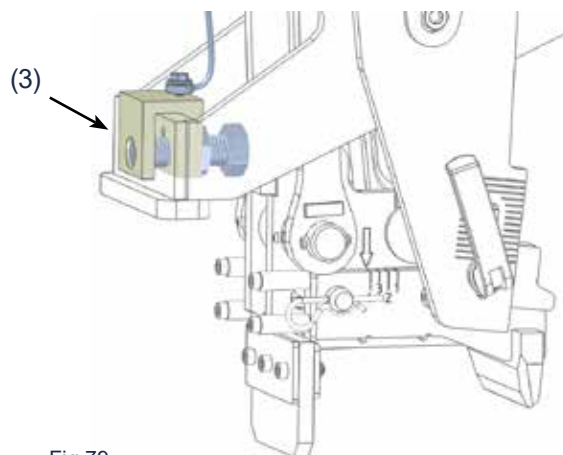

Fig 79.
2. Check that the mechanical stops (3) for unclipping are active, the screws pointing inwards on both sides, Fig 79.